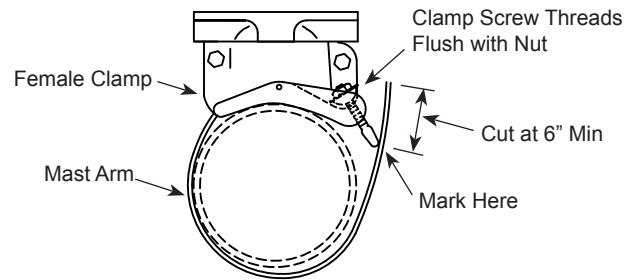

Figure 1
1. Place the female clamp on top of the mast arm. (Figure 1)
2. Place a clamp screw assembly in the adjacent pawl of the female clamp body with the hex nut flush with the end of the clamp screw threads. (Figure 1)
4. Mark the band at the point it crosses the clamp screw head and cut the band 6" past the mark. (Figure 1)